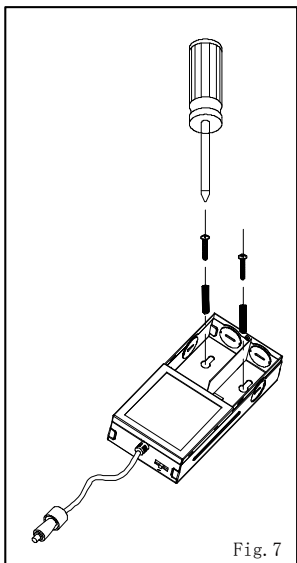

Fig. 7
8. Push junction box into the ceiling opening and fix with screw. Close the cover of the connection box. (Fig.7)